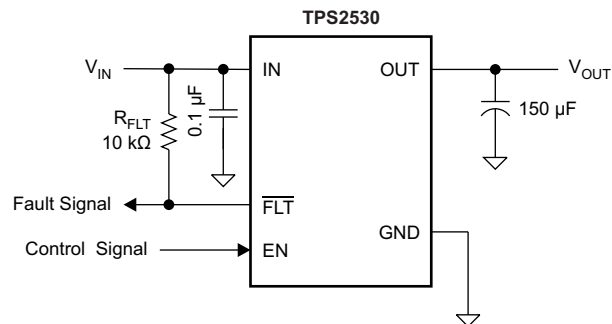

Figure 1. Typical Application
(1) Voltages are with respect to GND unless otherwise noted.
(2) See the Input and Output Capacitance section.
(3) V_{OUT} was surged on a pcb with input and output bypassing per Figure 1 (except input capacitor was a 22 μF) with no device failures.